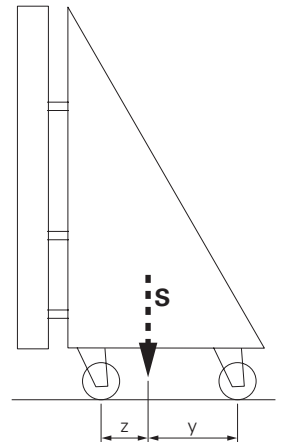

Fig. B4.05
- Plan the overall centre of gravity S in such a way that it lies between the castors. (Fig. B4.05)